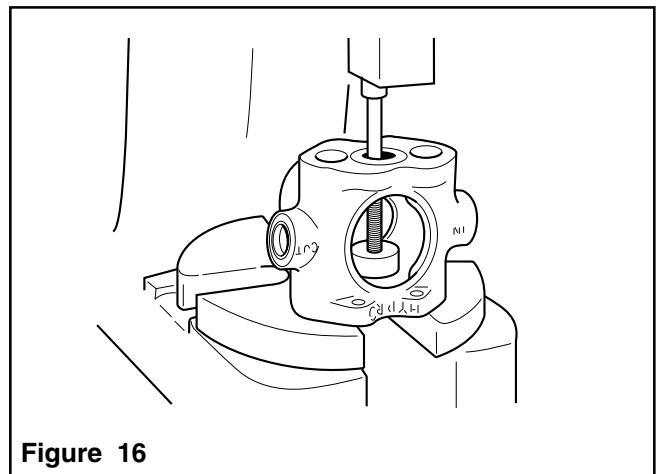

Figure 16
4. Place the arbor press ram on the bolt head and push both the Seal and Guide Retainer out of the Pump Body (See Figure 16).